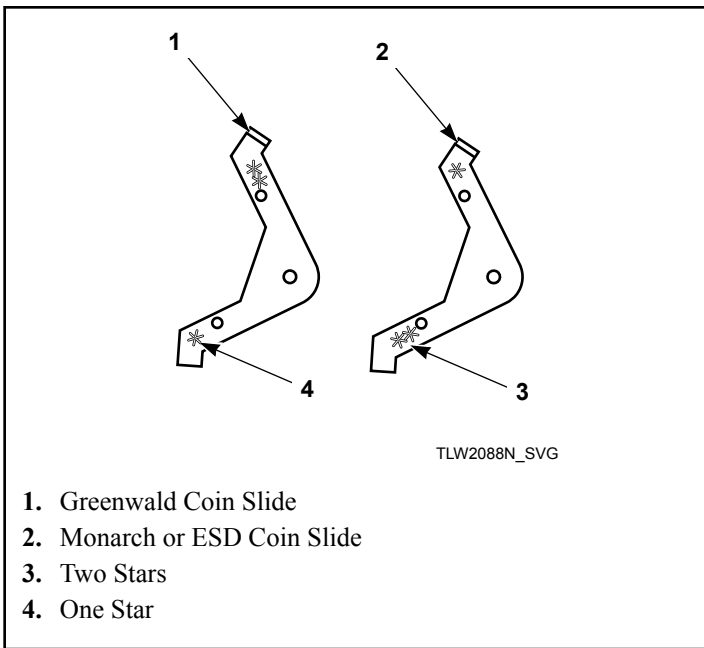

Figure 24
2. If installing a Greenwald coin slide, position extension lever (to be installed on extension bracket) with arm that has one star facing down. Refer to *Figure 24*.
3. If installing a Monarch or ESD coin slide, position lever with arm that has two stars facing down. Refer to *Figure 24*.